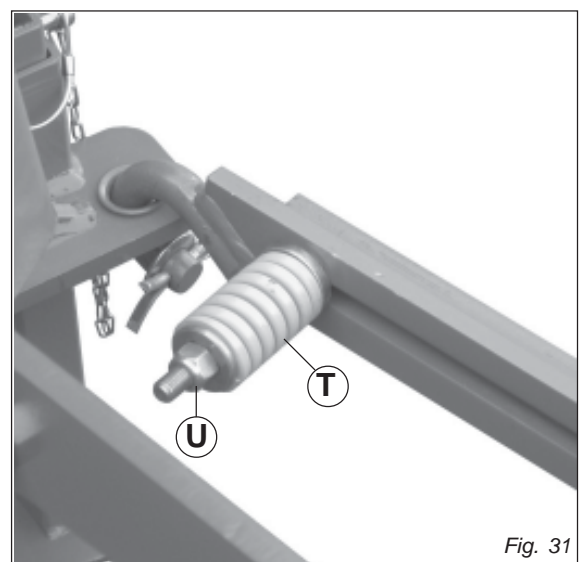

Fig. 31
- The sickle bar is fitted with a safety device for protection against obstacles. If this device is tripped by impact with an obstacle, stop the tractor without raising the cutting arm. Check that the cardan shaft has not become separated, if so, reassemble it. **Position the safety tie rod parallel to the ground, and reverse the tractor until the safety tie rod hooks up again.** If the tie rod releases easily, adjust spring (T, Fig. 31) using nut (U, Fig. 31) which should be tightened half turn at a time.